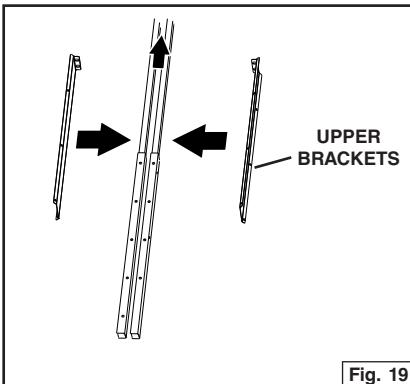
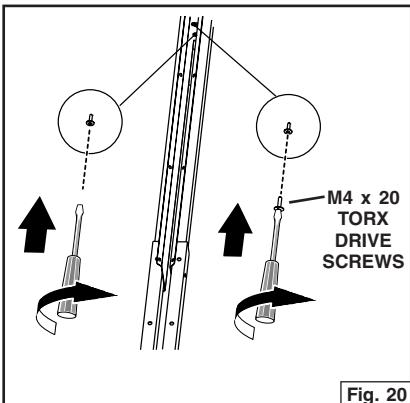

Fig. 19
Fig. 20
1. Install the Upper Brackets to the Telescopic Mounting Arm using (2) Large Head M4 x 20 Torx drive screws. Fig. 19 and Fig. 20. Remove the protective coating.